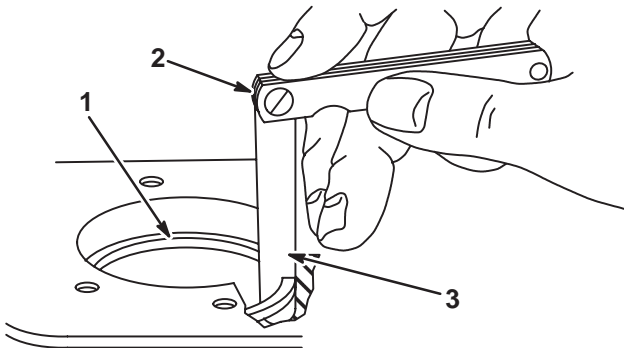

Fig. 121 – Checking Ring End Gap
3. Check end gap with feeler gauge, Fig. 121.